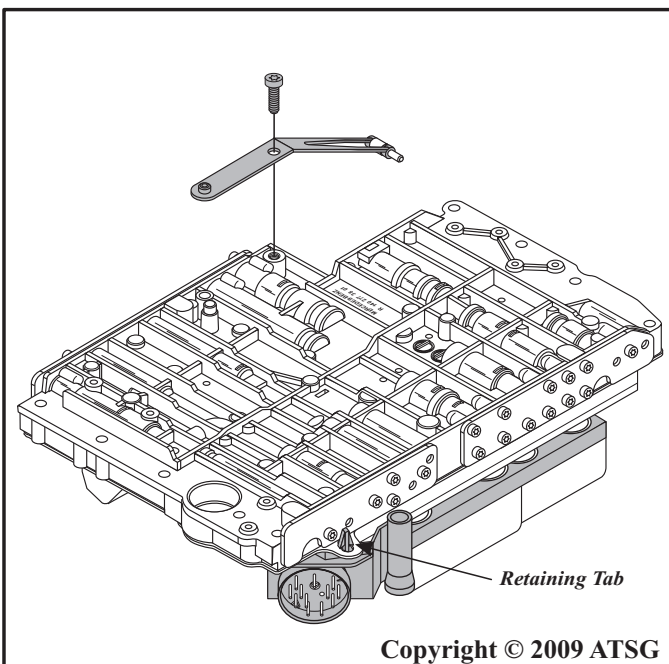

Figure 169
5. Remove electrical conductor plate by gently prying out the temp sensor support where it snaps under the spacer plate tab, and release the push thru tab by the case connector. Refer to Figure 169.
6. Remove the inside detent spring and retaining bolt, as shown in Figure 169.
Note: Electrical Conductor Plate snaps into position on spacer plate tab and through a hole in spacer plate. Refer to Figure 169.